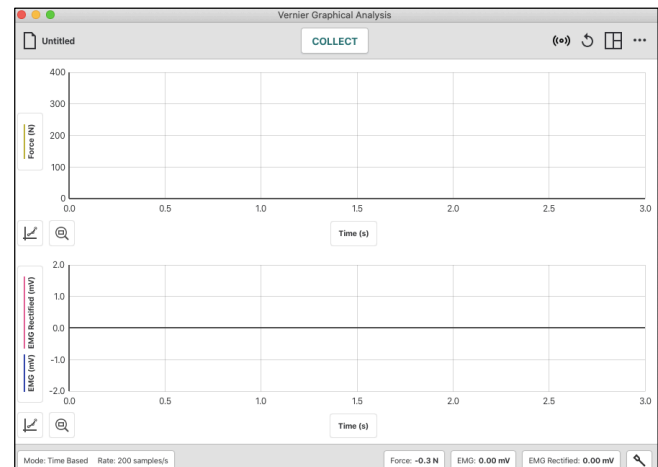

Figure 9. GAPro - Ready to Collect Data.
- Your screen should resemble Fig. 9. Squeezing the dynamometer or moving around the leads should cause the readouts at the bottom of the screen to change, confirming that everything is working properly.
- b. Clean skin with alcohol swabs before placing electrode stickers. Two tabs should be placed onto the ventral forearm, 5 cm and 10 cm from the medial epicondyle along an imaginary line connecting the epicondyle and the middle finger. The third should be placed on the medial surface of the upper arm (Fig. 9).